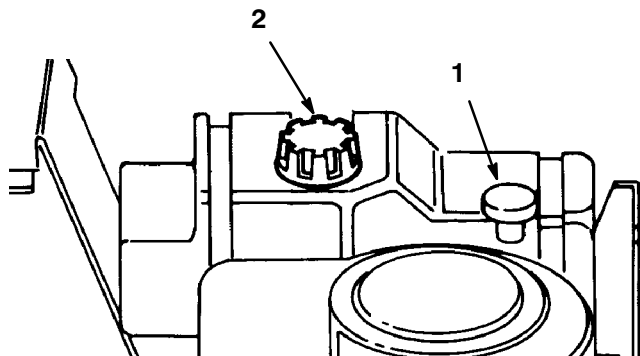

Figure 7
2. Unscrew and remove the dipstick from the oil fill tube (Fig. 7).